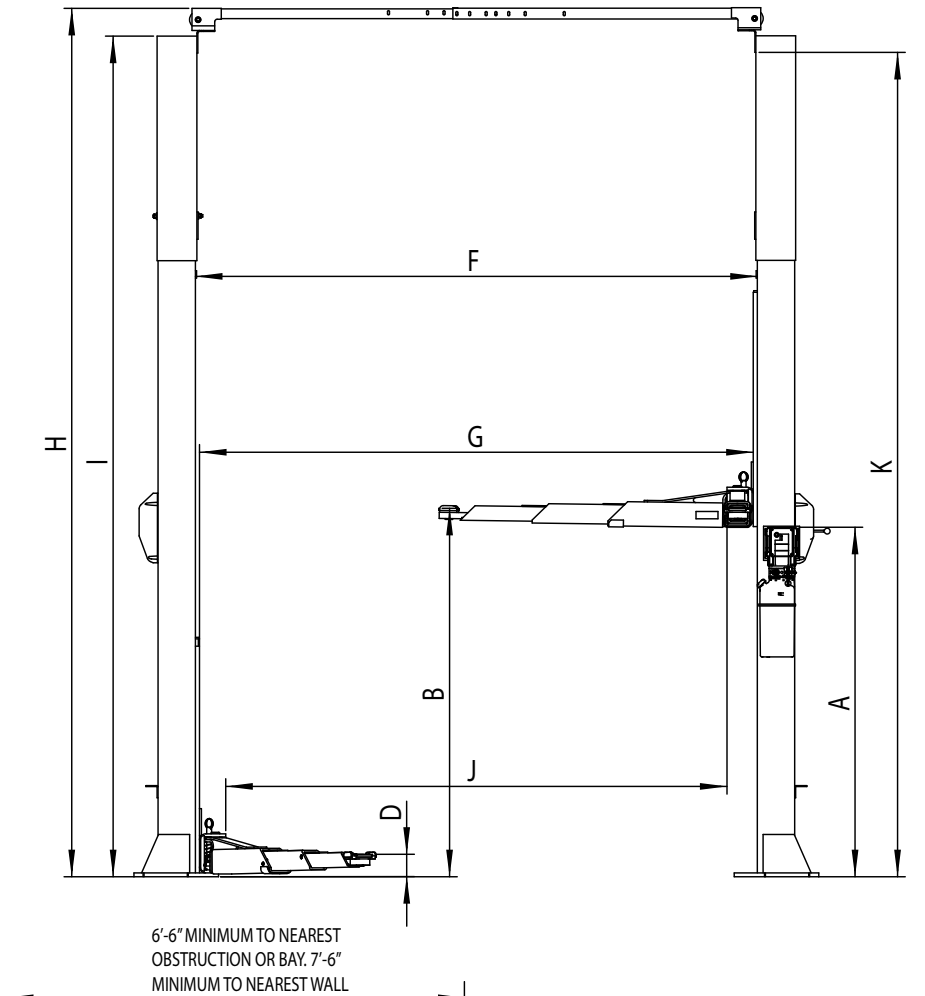

Fig. 1c
**1. Lift Location:** Use architects plan when available to locate lift. Fig. 1a, Fig. 1b, Fig. 1c & Fig. 1d shows dimensions of a typical bay layout.
**4. Lift Setting:** Position columns in bay using dimensions shown in Fig. 1a, Fig. 1b, Fig. 1c & Fig. 1d. Place column with power unit mounting bracket on vehicle passenger side of lift. Both column base plate backs must be square on center line of lift. Notches are cut into each base plate to indicate center line of lift. Use appropriate equipment to raise carriage to first latch position. Be sure locking latch is securely engaged.